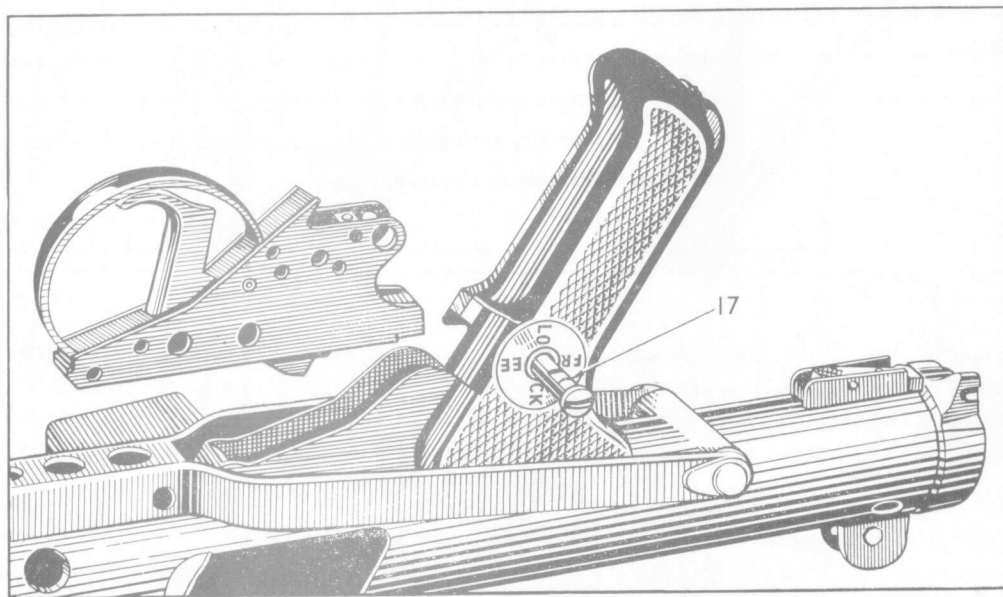

Fig. 11. To remove trigger group
**8.2 TO REMOVE TRIGGER GROUP** (Fig. 11). Set change lever at " Safe ", and with a small coin or rim of a cartridge turn the slot in the head of the trigger group retaining pin (17) in line with the word " Free " on the right side of the pistol grip. With the nose of a bullet or the blunt end of the cocking handle push trigger group retaining pin out and remove. Pull trigger group towards rear of weapon, disengage from step in underside of barrel case and swing front of trigger group out and remove from body. To remove trigger guard, push out forward pin, swing guard downward, pivoting about its rear fixing, and unhook from underplate.